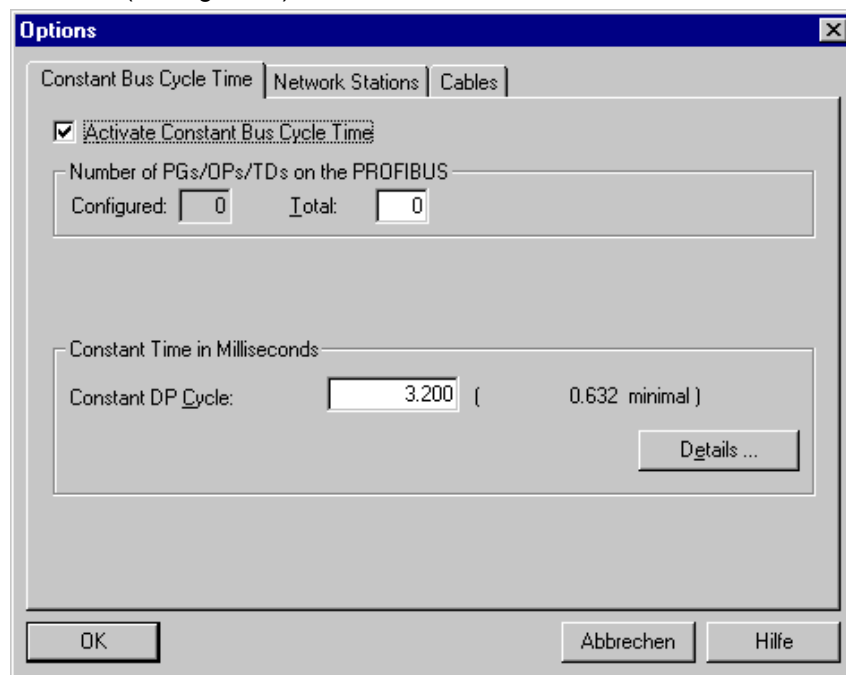

Fig. 9-54 Activation of the equidistance on the CPU
- ◆ Activate "Equidistant Profibus" in the window "Constant Bus Cycle Time" (cf.: Fig. 9-54).